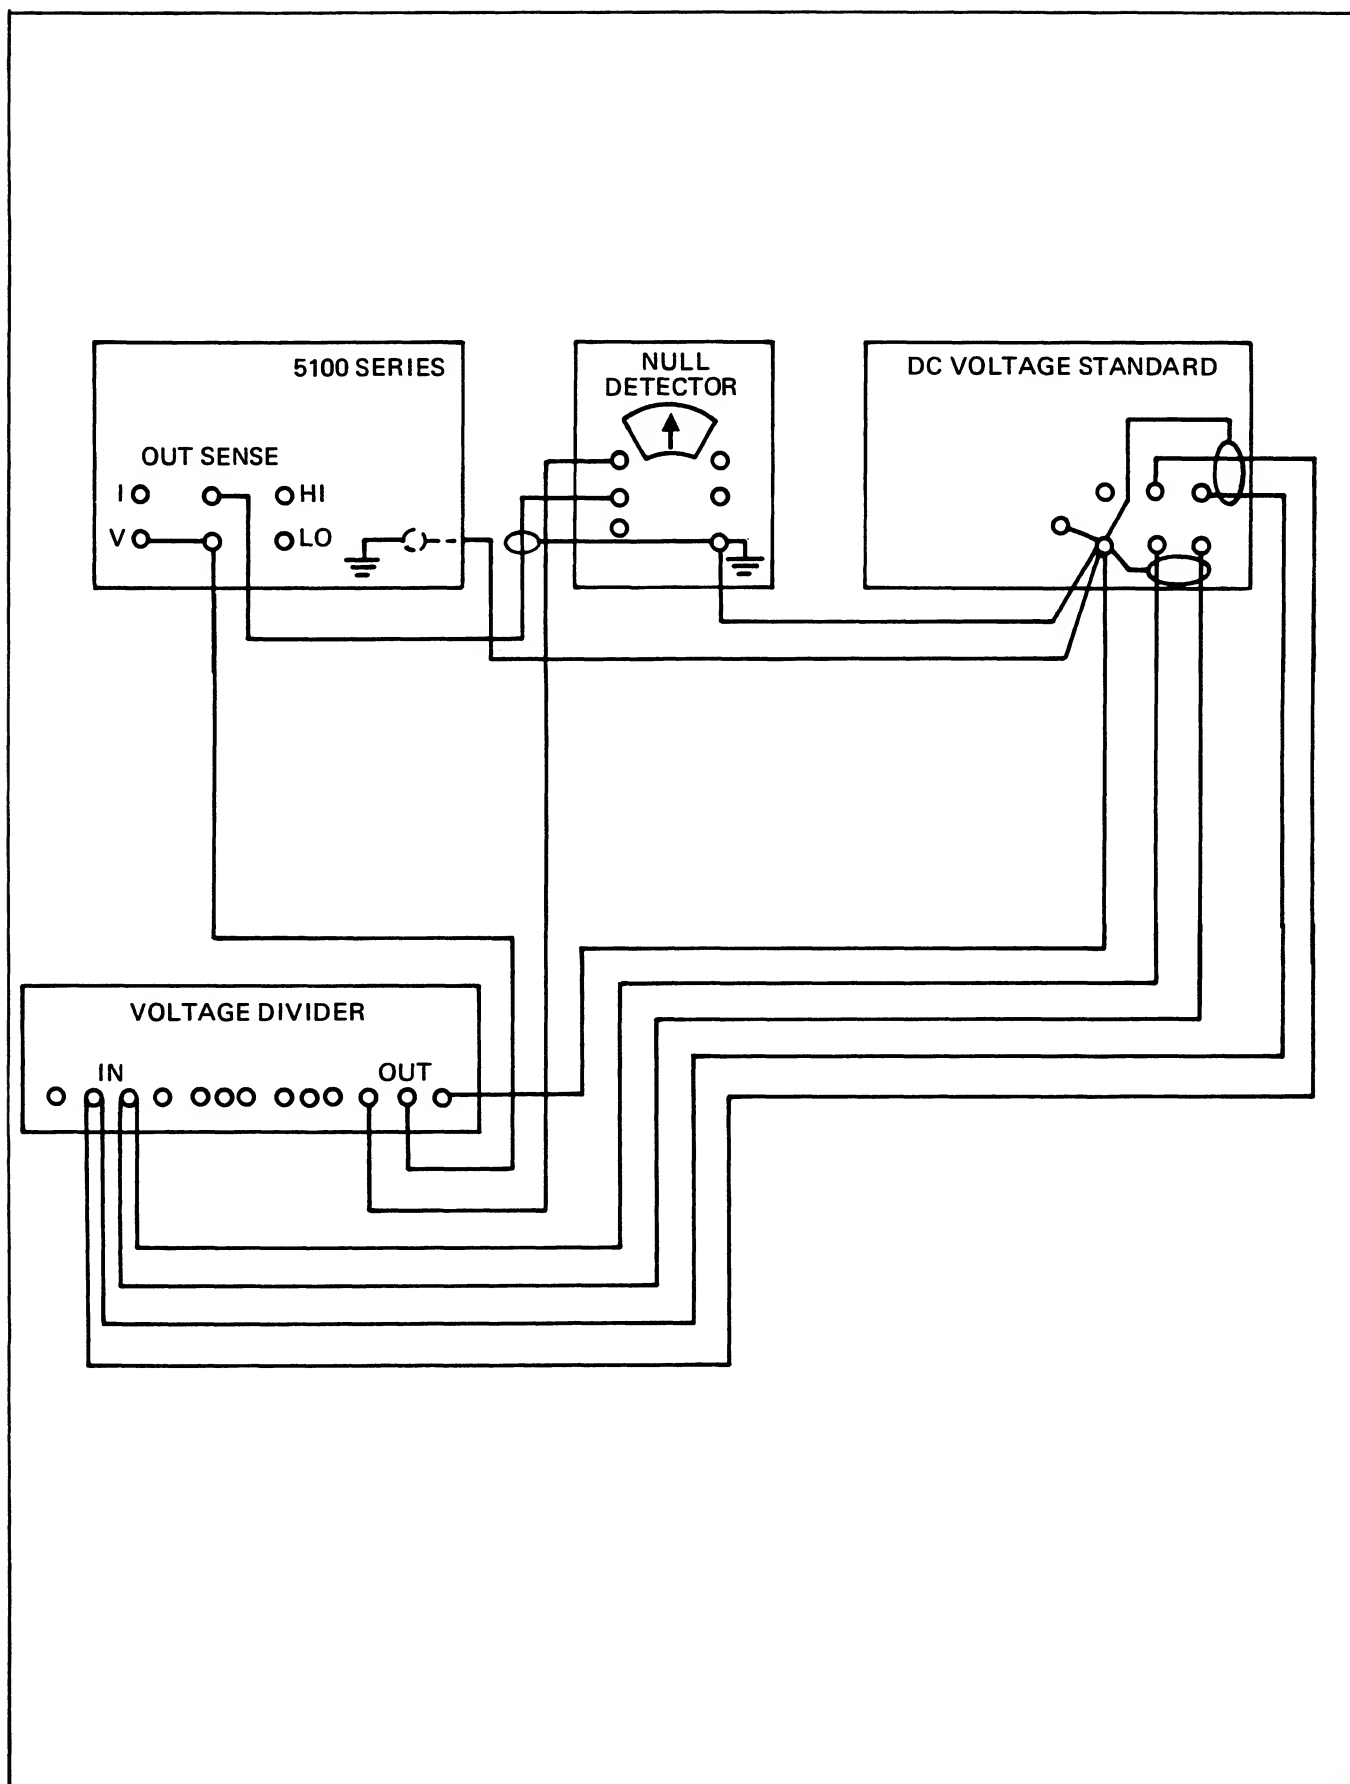

Figure 4-4. DC Low Voltage Tests
2. Connect the equipment as shown in Figure 4-4. Do not use the null detector built into the DC Voltage Standard.